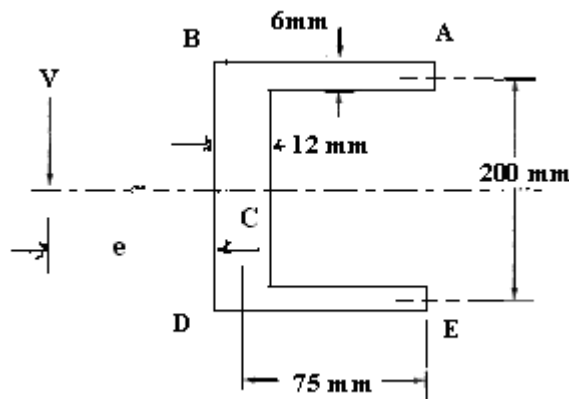

Figure 1:
3. The Unlipped extruded beam has the cross section shown in figure 1, determine: